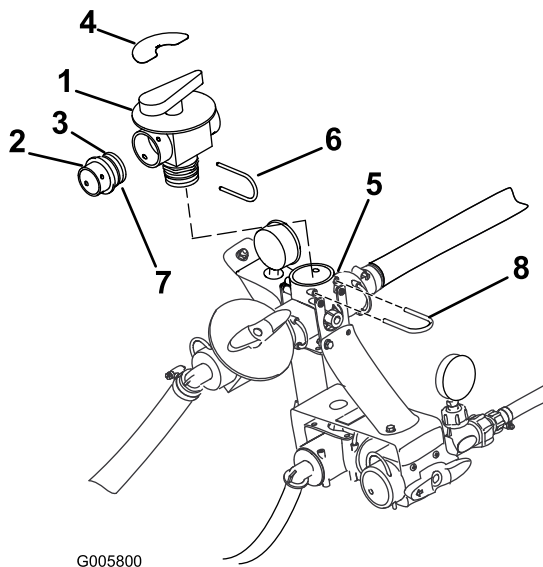

Figure 23
5. Install the bulk reducer fitting to the rinse tank side of the valve (Figure 23). Secure it with a large retainer fork from loose parts.
6. Install the tank rinse valve onto the top mixer tee as shown in Figure 23 with the bulkhead facing rearward. Secure the valve with an existing, large retainer fork.